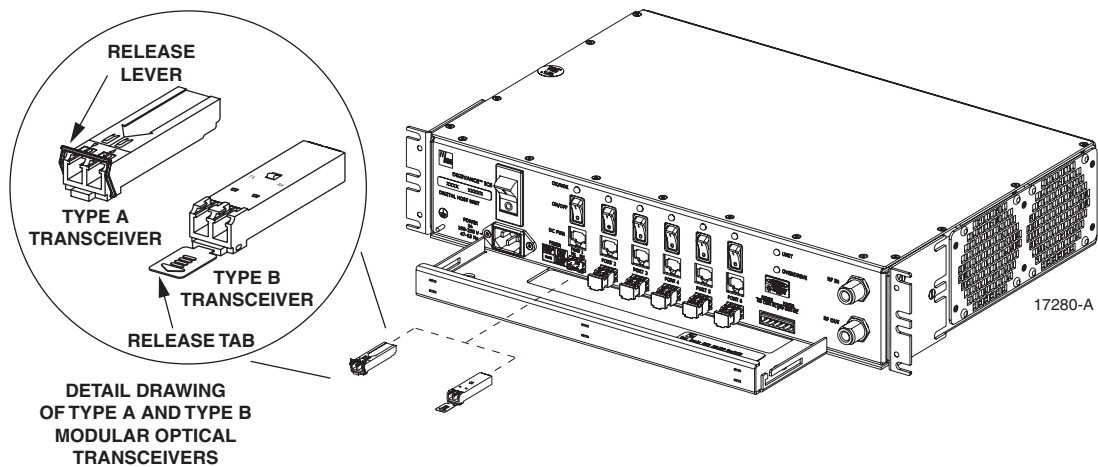

Figure 34. DHU or DEU Optical Transceiver Installation
- 8. Remove the optical transceiver from the anti-static packaging and orient for installation as shown in Figure 34.
- **Note:** Two types of optical transceivers, type A and type B, are available. Both types provide the same functionality. On the type A optical transceiver, the release lever (see Figure 34) must be closed for installation.